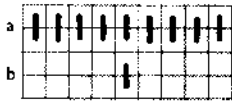

Figure 2.
In figure 2 each vertical stripe that crosses the horizontal line stands for a pair of pattern ends (L) which are lifted above a pair of dark wefts. This lifting is usually done with a pick-up stick.